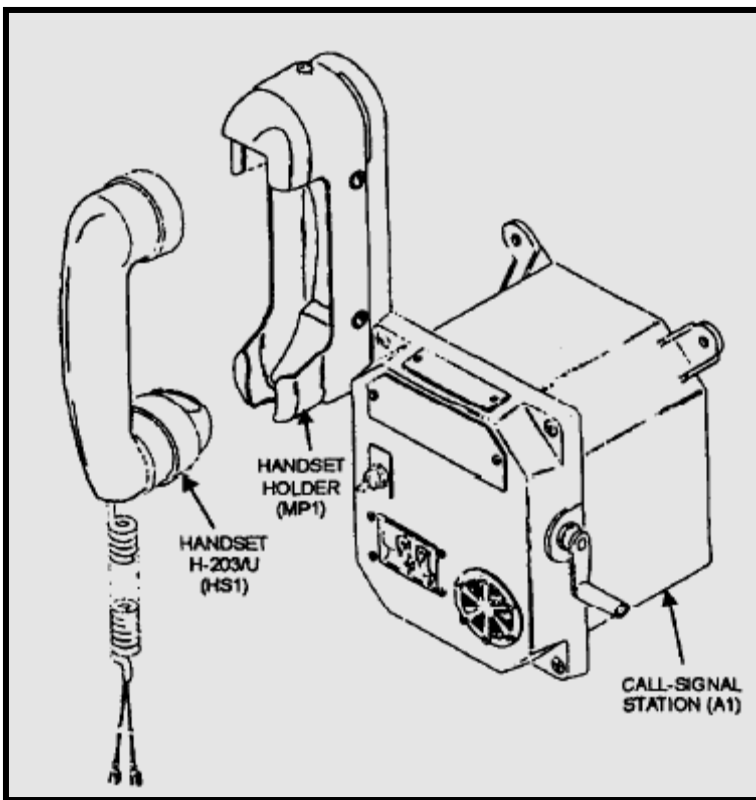

Figure 5-24.— The TA-974/WTC-2(V) sound-powered telephone set, unit 1.
**UNIT 1.**— Unit 1 (fig. 5-24) is a bulkhead-mounted terminal station consisting of three separate components: call-signal station A1, handset HS1, and handset holder MP1.